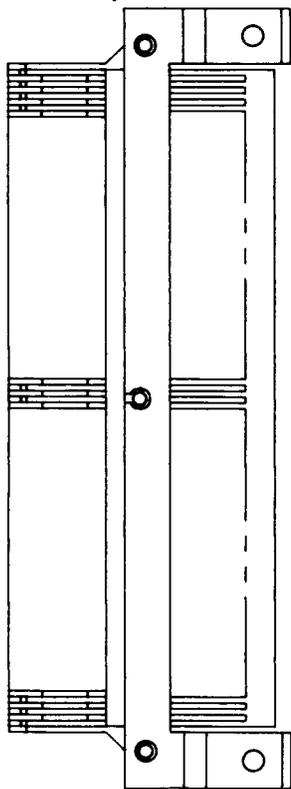

Fig. 17—984A Connector
2.13 984A: The 984A connector (Fig. 17) consists of 92 contact springs symmetrically sandwiched between a tongue and two molded insulators riveted together between two stainless steel brackets. The connector is used with the 985A and 987A connectors. The connector is used on the Remote Switching System (RSS).